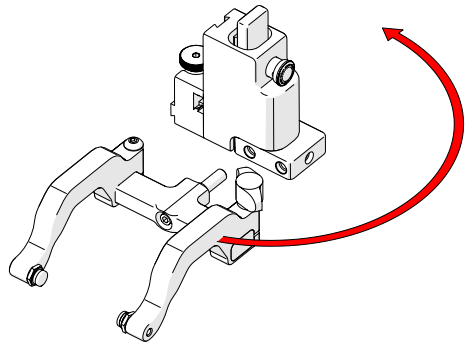

Fig. 200 - Orient to opposite side
2. Position the yoke and arms to the opposite side of the probe holder (Fig. 200).